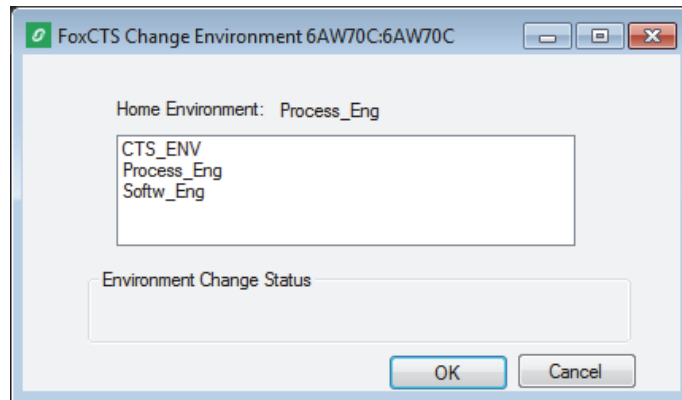

Figure 3. FoxCTS Change Environment Box
- ▶ After successful FoxCTS login, only the environments configured for the FoxCTS user appear in the change environment pop-up list, as shown in Figure 3.